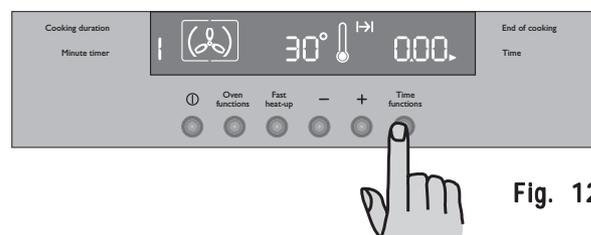

Fig. 12
- 2) Press button Time function to select the "Cooking Duration" function (Fig. 12). The "Cooking Duration" symbol  will flash and the control panel will display "0.00".